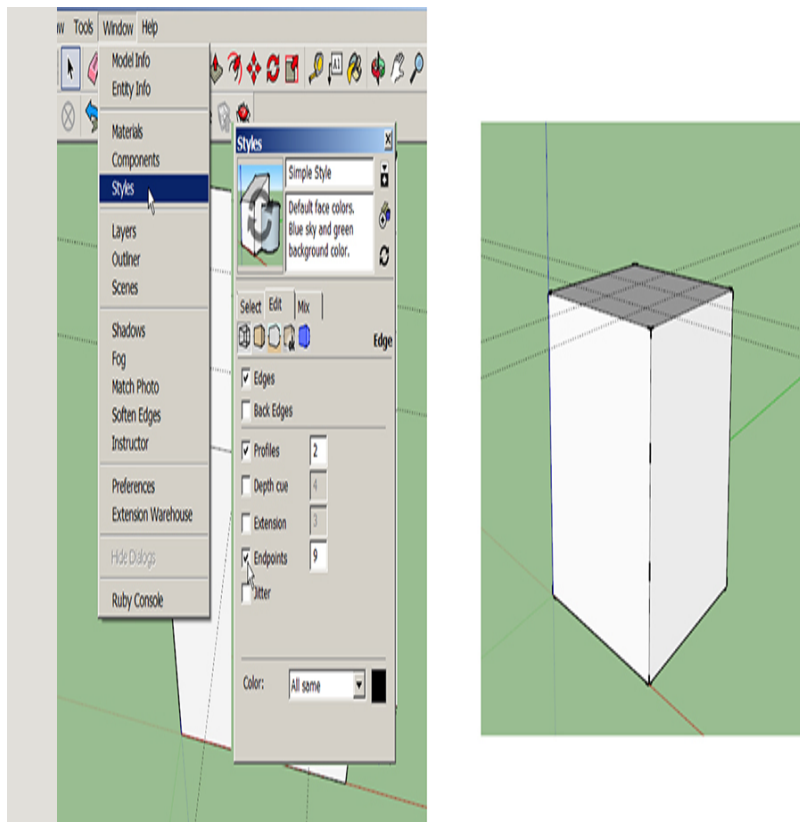

Figure 3-9 Adjust the Endpoints setting so that they'll appear on the model.
6. Make the endpoints of the line segments visible (Figure 3-9). Endpoints are turned off by default, so we'll turn them on. Click on Window > Styles and then on the Edit tab. Check the box in front of Endpoints, keeping the default size number at 9. Line endpoints will appear on the model, including on the endpoints of the three divisions we just made.